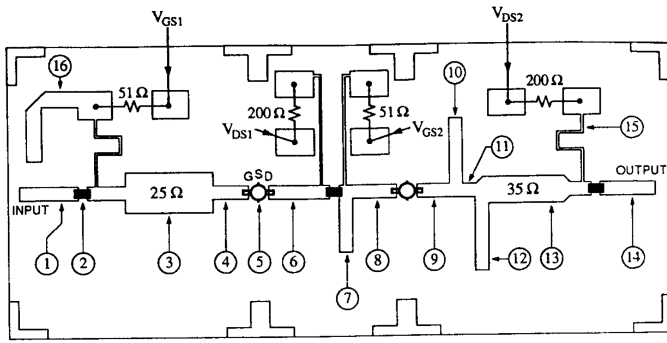

Figure 11. First example of a two-stage LNA (from [2]).
The first example comes from [2] and is shown in Figure 11. The circuit is a 2-stage LNA consisting of GaAs FETs. (1) and (14) are  $50\Omega$  lines for connections to the coaxial cables. (2) is a DC blocking capacitor. The matching network consisting of (3) and (4) provide the optimum low-noise reflection coefficient to FET (5). The FETs are both placed in a common-source configuration. The matching network consisting of (6) (7) and (8) transforms the output impedance of the first FET into the optimum low-noise reflection coefficient for the second FET. Finally, (9) (10) (11) (12) and (13) provide a conjugate match at the output of the second FET. The biasing is done through high-impedant  $\lambda/4$  lines (15). The short at the end is created by the big pads where the bias resistors are connected. An even lower impedance is provided at the input by the open-circuited  $\lambda/4$  line (16).